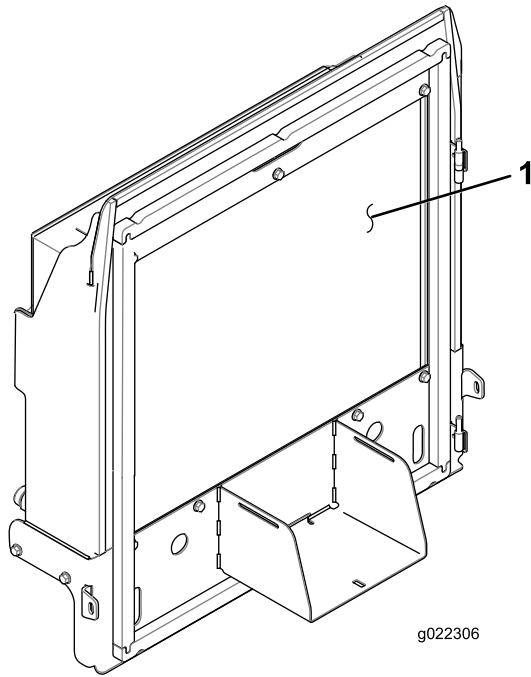

Figure 63
4. Thoroughly clean both sides of the radiator and oil cooler (Figure 63) with compressed air.